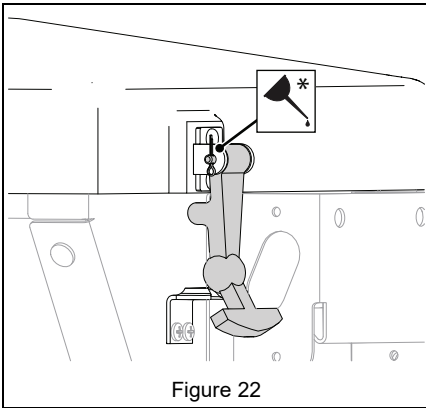

Figure 22
- Apply a thin layer of oil to latch pivot points. See Figure 22.